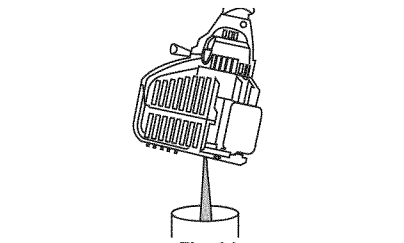

Fig. 24
2. Pour the oil out of the oil fill hole and into a container by tipping the unit to a vertical position (Fig. 24). Allow ample time for complete drainage.